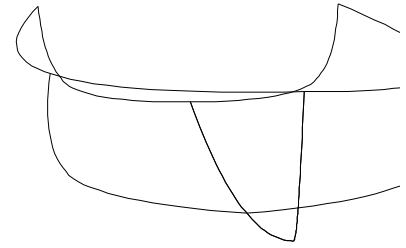

Fig. 35
**views from near Lat 0, Lon 180.** From all directions now (including Lat -5, Lon 175 - Fig. 35), the “planarized” sheerline presents either a straight or simple parabolic projection — no loops, no kinks, no flat spots — pure grace and beauty!